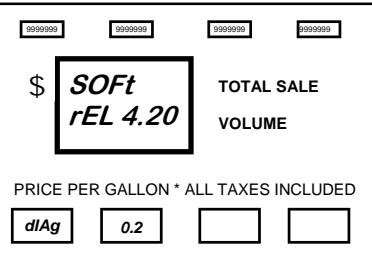

Figure D-3
0.2 - Software Release Number. The display shown in Figure D-3 appears. The price display shows the dispenser is in Diagnostics Level 0.2.